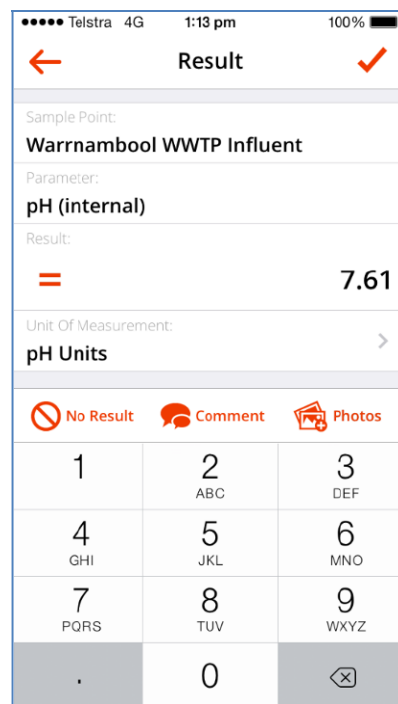

Figure 11: *The results entry screen for the iPhone*
- 8. iPhone/ iPad App.** An App has recently been created which allows direct data entry. Data can be entered using the App (Figure 11) even if there is no phone range, the data will automatically be imported into the system when the phone comes back in range.